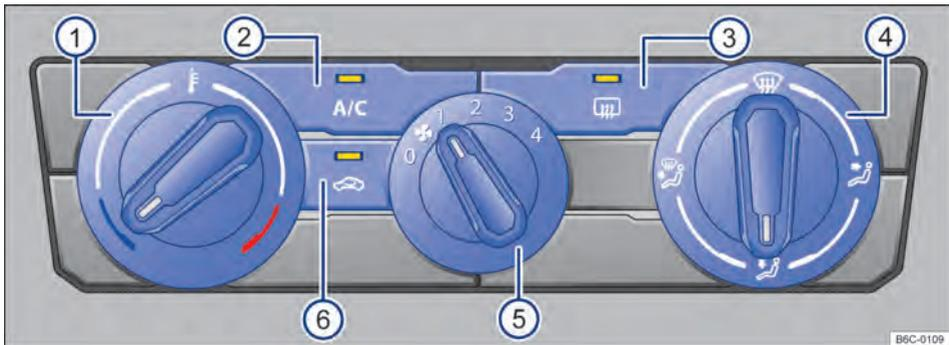

Fig. 79 Air conditioning controls.
- Turn the blower regulator to stage 0 → Fig. 79 (5).
- Press the **A/C** → Fig. 79 (2) button to turn the cooling on and off.
- Turn the left rotary regulator → Fig. 79 (1).
- Turn the blower regulator → Fig. 79 (5).
- Press the  → Fig. 79 (3) button.
- Turn the right rotary regulator → Fig. 79 (4) to the desired position.
- Turn the right rotary regulator to position  → Fig. 79 (4).